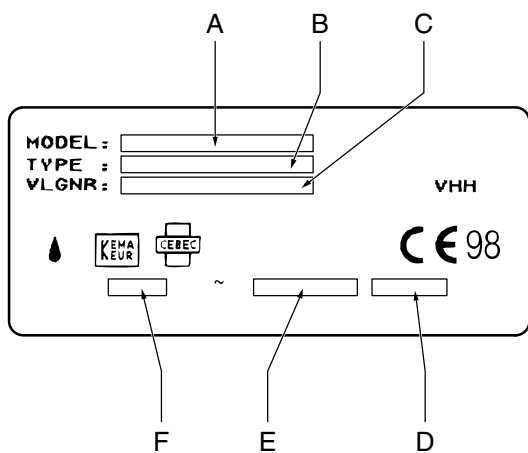

Fig. 3 Contents of machine identification plate
These data are found on the device identification label (fig.3).
- See fig.3